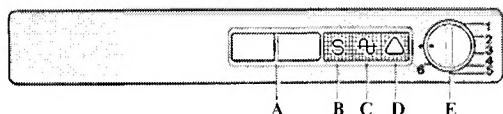

Fig. 1
A. Freezer controls (Fig. 1)
The temperature within the freezer is controlled by the thermostat situated at the top of the fridge freezer unit (see Fig. 1).